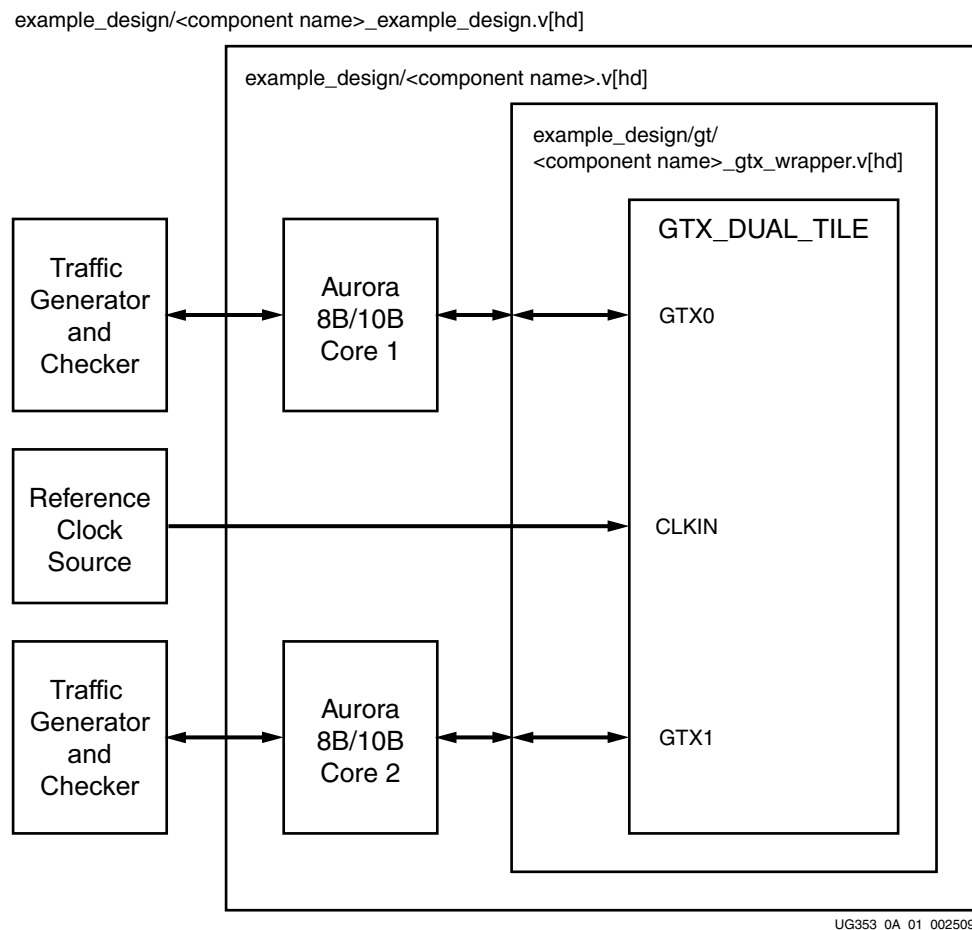

Figure A-1: Example Showing Two Single Lane Aurora 8B/10B Cores Sharing a Transceiver Tile in the Virtex-5 Family
The Aurora 8B/10B core instantiates the GTX_DUAL primitive in <component name>_tile.v[hd] file located in <component name>/example_design/gt/. This file contains GTX0 and GTX1 specific ports together with shared tile ports. This file is hierarchically called in <component name>_gtx_wrapper.v[hd]. The user needs to bring out unused transceiver ports to the <component name>_gtx_wrapper.v[hd] file that is instantiated in the Aurora 8B/10B core's top level file. See Figure A-1, page 115 for the file level hierarchy of the Aurora 8B/10B core.
The Aurora 8B/10B core automatically sets shared PLL ports and attributes based on the CORE Generator™ software options. The reference clock input and the GTX transceiver reset to a tile is driven from the example design. The Aurora 8B/10B core derives the clock from TXOUTCLK0/1 and based on GTX0 or GTX1 selection, TXOUTCLK0 or TXOUTCLK1 is fed to the PLL input for generating the core's clock. The user can use the same TXOUTCLK source used in core 1 (See Figure A-1, page 115), or optionally can use the other TXOUTCLK port for core 2. Because the reference clock and GTX transceiver reset ports are common for GTX0 and GTX1, application of the GTX transceiver reset resets both cores.
4. Map these new ports to another Aurora 8B/10B core (see core 2 in Figure A-1).
Figure A-1 shows two single lane Aurora 8B/10B cores sharing a tile in the Virtex-5 family.